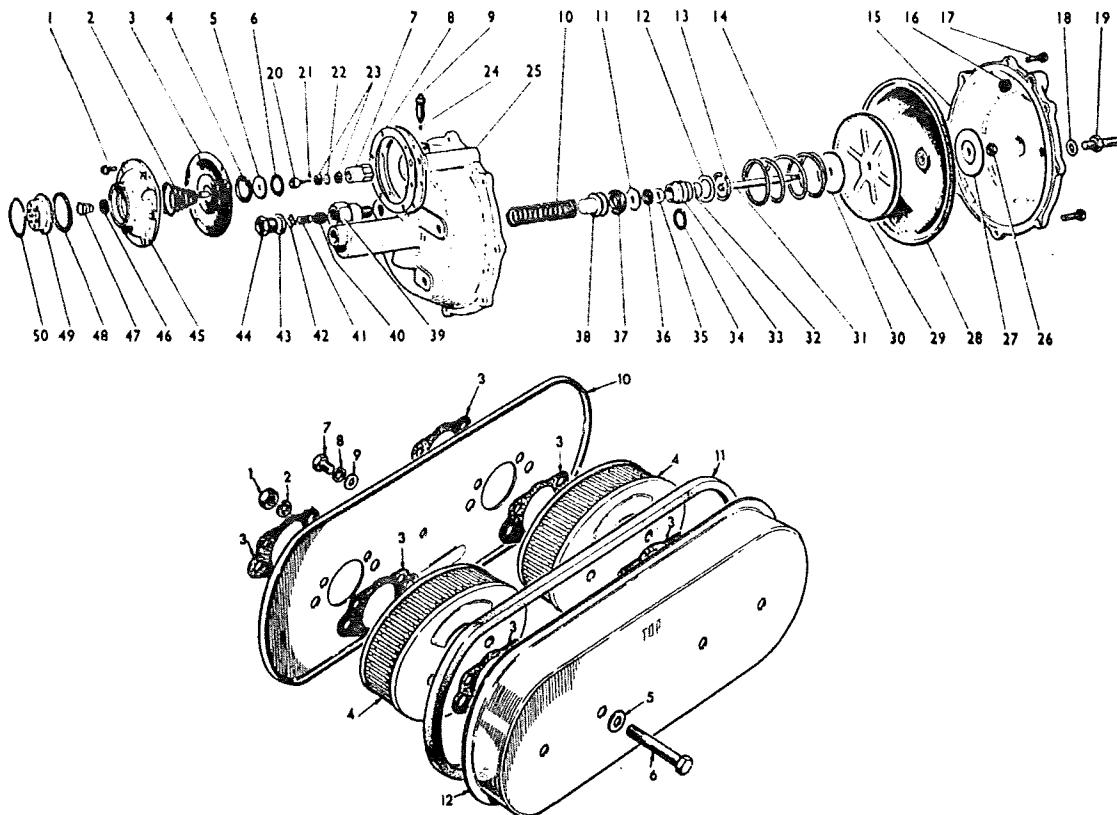

Figure UH-9: Mot-A-Vac and Air Box Accessories For The TR4 and TR4A
- “Mot-A-Vac” Vacuum Servo Unit. Power brakes were an option for the TR4/4A. The power-assist servo unit mounted to the firewall in front of the passenger (LHD cars). This explains the indentation in the rear of the right inner fender. The servo attached to a fitting in the center of the intake manifold to get manifold vacuum. Brake lines went from the master cylinder to the servo unit, and there to the brakes. The servo unit should be painted black except for the integral cylinder which should be natural aluminum. An exploded view of the Mot-A-Vac is below in Figure UH-9.
- Air Box. A TR4A option was to enclose the air filters in an air box similar to later TR units. This box is also shown below in Figure UH-9.